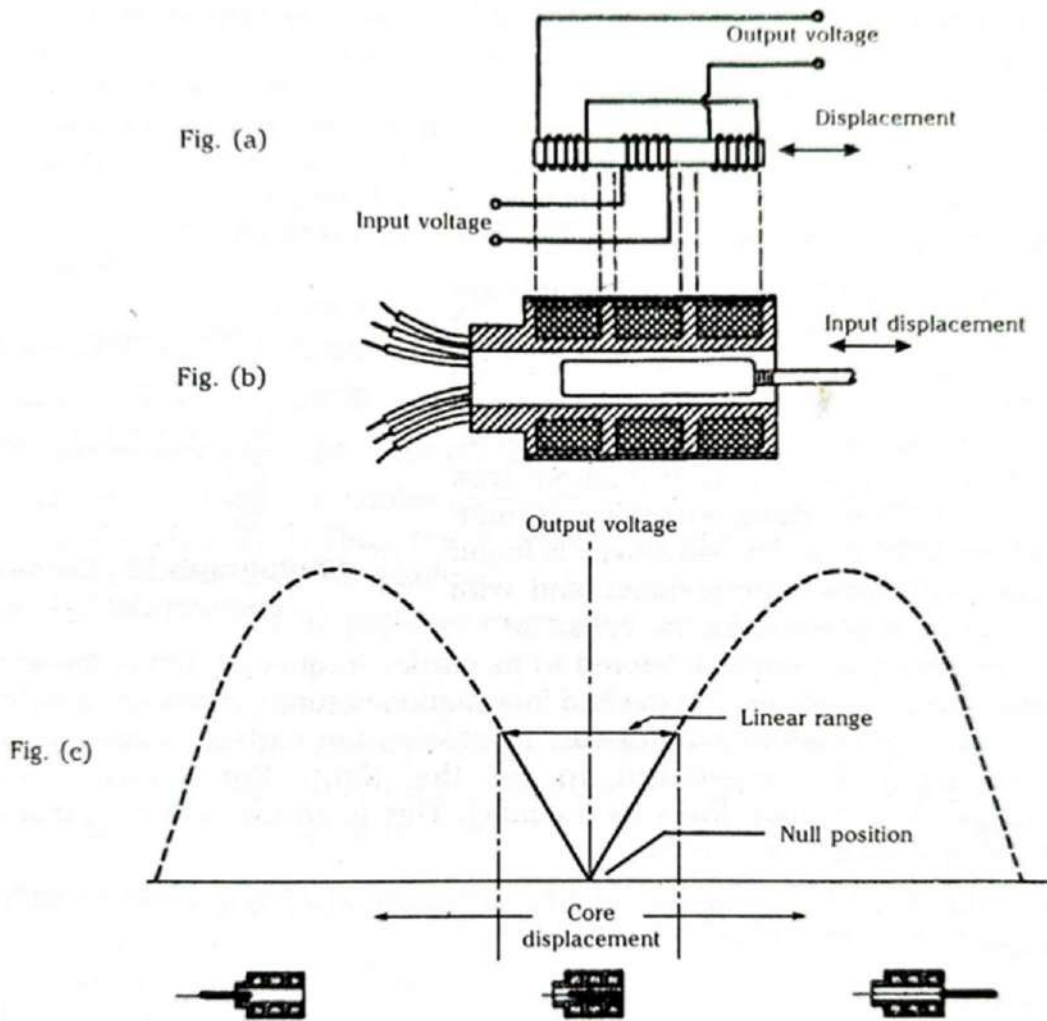

Fig. 3.11 LVDT (a) Schematic arrangement (b) Section through a typical transformer (c) Typical Differential Transformer Performance Characteristics
- It is a mutual inductance device making use of 3 coils arranged as shown in Figs. 3.11 (a) and (b).
- Fig.3.11(c) shows typical differential transformer characteristics obtained by plotting the output voltages Vs core displacements.